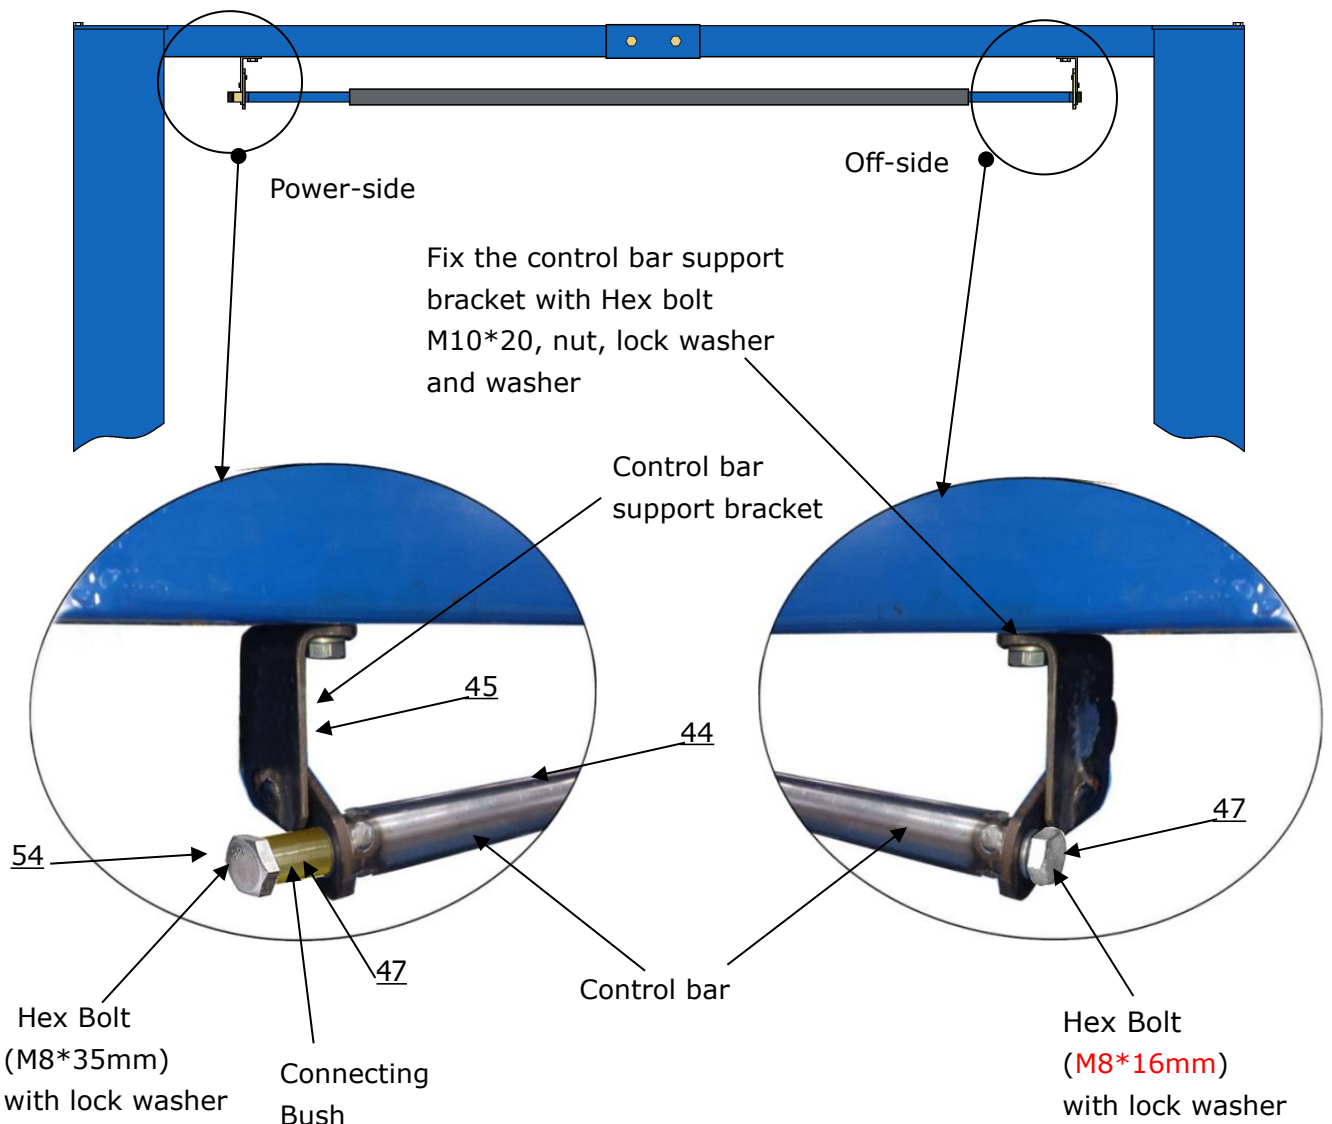

Fig.23
N. Install control bar for limit switch (See Fig. 23)